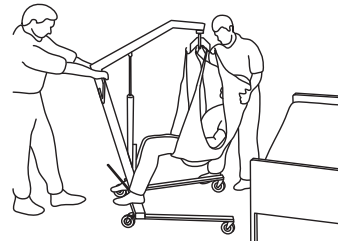

FIGURE 7.1 Lifting/Moving the Patient
For this procedure, refer to FIGURE 7.1 on page 27.
When the patient is lifted from the bed (with the patient's head supported by the sling and/or an assistant), he/she will be raised to a sitting position (Detail "A" of FIGURE 7.1 on page 27).
3. Swing the patient's feet off the bed when the patient is clear of the bed surface (Detail "B" of FIGURE 7.1 on page 27).
5. Turn the patient so that he/she faces assistant operating the patient lift when moving the patient lift away from the bed (Detail "C" of FIGURE 7.1 on page 27).